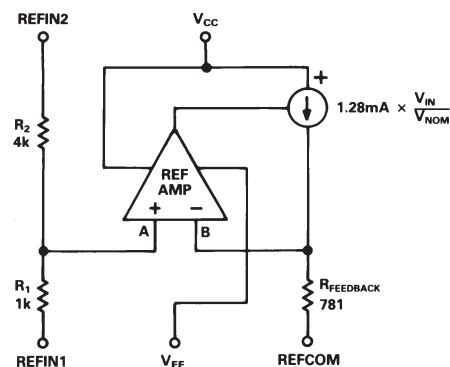
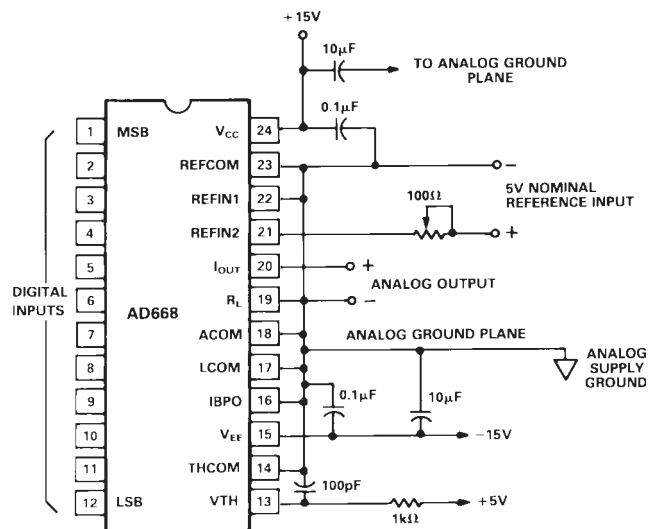

Figure 5. Equivalent Analog Input Circuitry
Figure 7. 5 V REFIN/1 V Unbuffered Unipolar Output
The reference input buffer can be viewed as a resistive divider connected to one terminal of an op amp, as shown in Figure 5. A unit DAC current source drives a resistor to produce a voltage that is fed back to the opposite terminal of the op amp. Resistor  $R_{FEEDBACK}$  is laser-trimmed to ensure that a 1 V input to node A of the op amp will produce a 10.24 mA DAC output. REFIN1 and REFIN2 may be configured in any way the user chooses to provide a nominal input full scale of 1 V at node A.  $R_1$  and  $R_2$  are sized and trimmed to provide both a 5:1 voltage divider and a parallel impedance that matches the impedance at node B, thereby reducing the amplifier offset voltage due to bias current. The resistive divider is trimmed with an external 50  $\Omega$  resistor in series with the 4k leg ( $R_2$ ). This provides a gain trim range of  $\pm 1\%$  using a 100  $\Omega$  trim potentiometer (Figure 7). If trimming is not desired, a 50  $\Omega$  resistor may be used in place of the potentiometer to produce the specified gain accuracy, or the resistor may be omitted altogether to produce a nominal gain error of +1%.
**REFCOM** – this node provides the reference ground for the reference amplifier's current feedback loop (as illustrated in Figure 5) as well as providing the negative supply voltage for most of the reference amplifier. The current consists of 1.2 mA of analog input dependent current and another 3 mA of input independent current. Analog input voltages should always be produced with respect to this voltage.
**REFIN1** – has a 1k series resistance to the reference amplifier input and a 5k series resistance to REFIN2. REFIN1 may be used in conjunction with REFIN2 to provide a 5:1 voltage divider, or the two may be driven in parallel to provide a high impedance input node (see Figure 5).
Figure 7 shows a typical topology for generating an unbuffered voltage output. RL (Pin 19) is grounded, producing a 100 Ω
The input divider has been connected to produce a 5 V full scale reference input by shorting REFIN1 to the analog ground plane and using REFIN2 as the reference input. With a 5 V nominal full scale, the 10% to 120% reference input range falls between 0.5 V and 6 V. The effective input resistance in this mode is 5 kΩ (±20%). The ratio of the input divider has been intentionally skewed by 50 Ω to provide an optional external fine trim for gain adjust. A trim range of ±1% is provided by the 100 Ω trimming potentiometer shown in Figure 7. If trimming is not desired, a 50 Ω resistor may be used in place of the potentiometer to produce the specified gain accuracy, or, if a +1% nominal gain error is tolerable, the resistor may be omitted altogether.